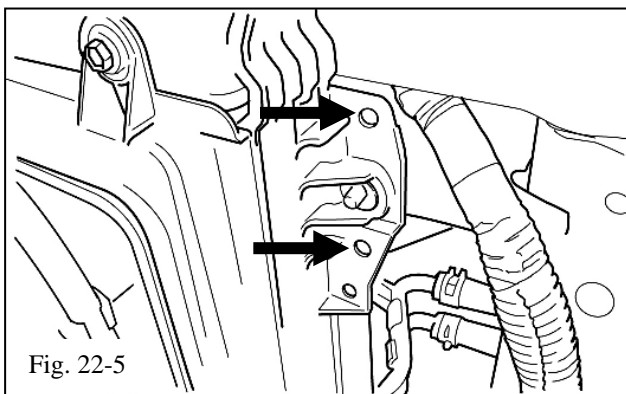

Fig. 22-5
- (h) The intercooler reservoir mounting bracket (Item A1) mounts to the upper RH corner of the vehicle radiator in the 2 existing holes (Fig. 22-5).